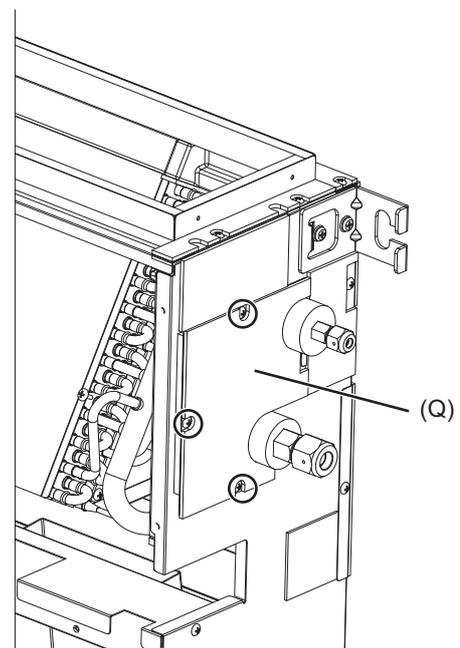

Fig. 17
- (1) Remove the three fixing screws on the cover (Q) to remove it. (Fig.17)